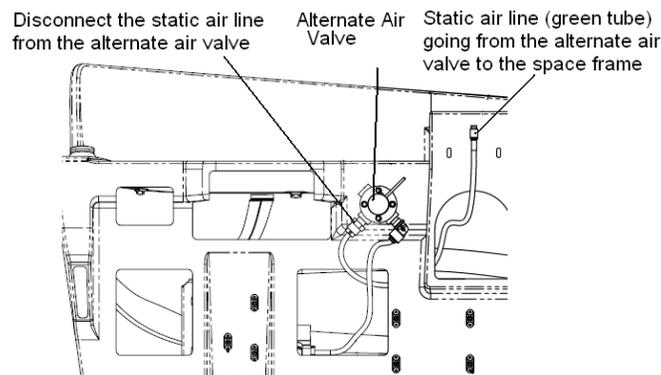

Figure 53-13 Location of the Alternate Air Valve
19. Remove the static line (green tube) that comes up from the space frame and goes to the alternate air valve on the under surface of the instrument panel console assembly. See Figure 53-13 for the location of the alternate air valve and the static line.